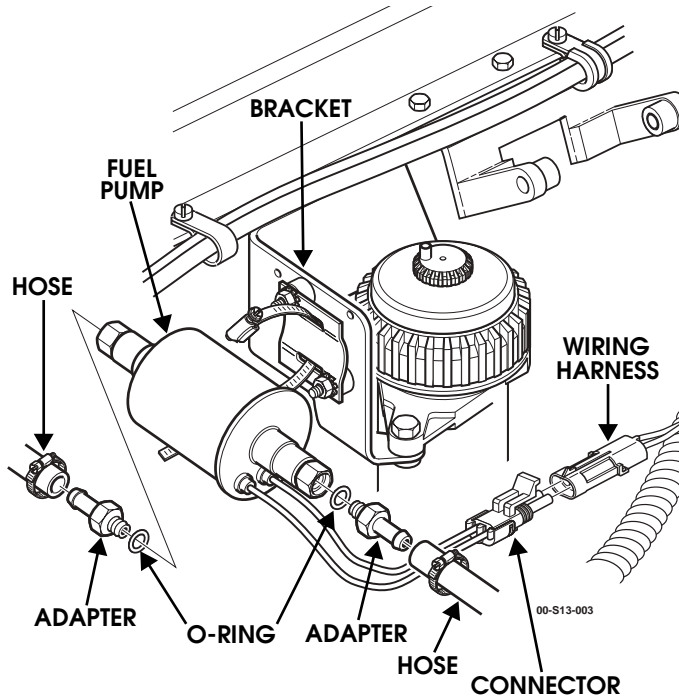

Figure 3-43: Fuel Pump Attachment
1. Disconnect fuel pump wiring harness (Figure 3-43).
1. Install O-rings and adapters on fuel pump (Figure 3-43). Use new O-rings.